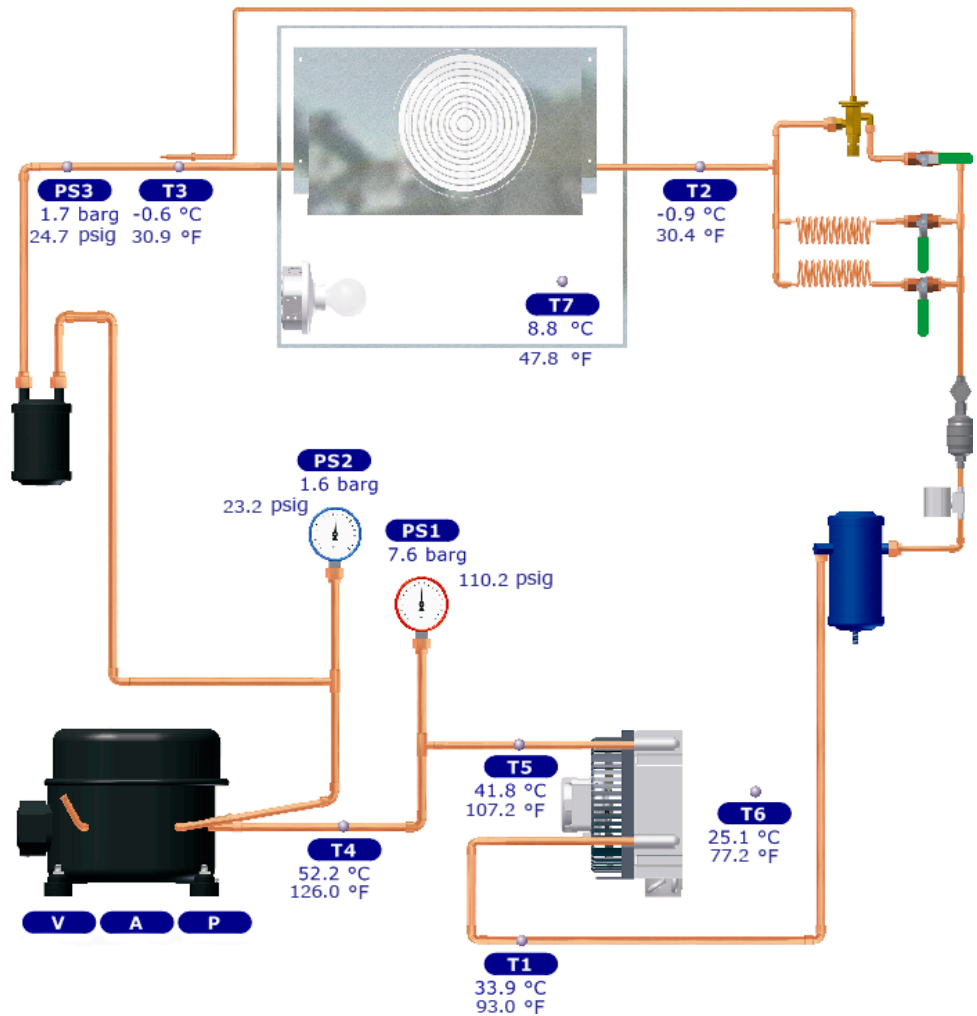

Figure 31. Example of the temperatures and pressures read at the various test points of the system.
9. Figure 31 shows an example of the temperatures and pressures that can be read at the various test points of the Refrigeration Diagram, under the current operating conditions. Using the temperatures and pressures in this figure, fill in Table 16—once complete, this table contains all the data required to plot the refrigeration cycle of the system.
Pressure, temperature, and enthalpy data required to plot the refrigeration cycle. Refer to Figure 31.